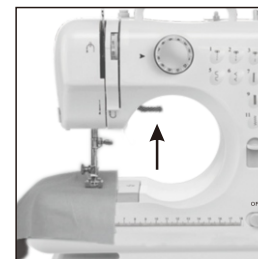

Fig.7
1. Turn the hand wheel on the side of the sewing machine anticlockwise to raise the needle to its highest position. Lift the presser foot and place the fabric you wish to sew under the presser foot (Fig.7).